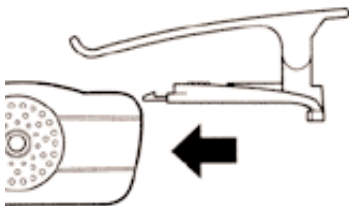

Figure 5
2. Slide the detector on to the base plate until it clicks fast. See figure 5.